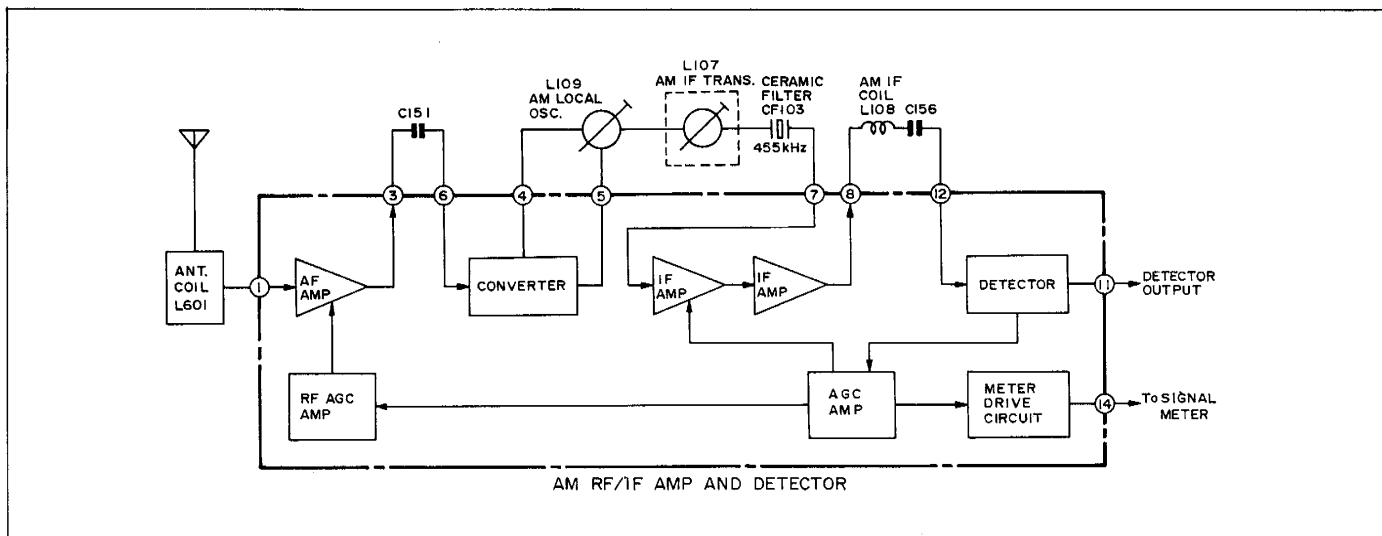

Figure 19 BLOCK DIAGRAM OF IC102
Figure 19 is a block diagram of IC102. The coil L601 is AM ferrite bar antenna and it serves as antenna tuning circuit. Being received by the coil L601, AM broadcast signal is applied to the terminal ① of the integrated circuit IC102 to be amplified by RF amplifier and then be supplied to the converter via the capacitor C151. L109 is an oscillation coil for AM local oscillation circuit. AM broadcast signal is thus converted to 455kHz IF signal by the converter to be applied to the ceramic filter (CF103) which works as